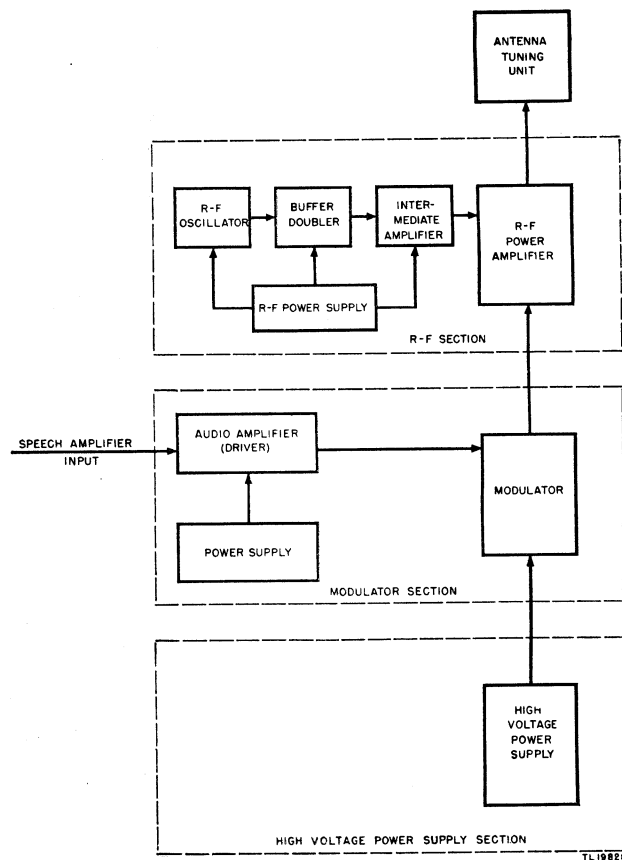

Figure 4. Radio Transmitter BC-610-(*), block diagram.
a. UPPER CHASSIS. The upper chassis includes the radio-frequency components, filament supply for the radio-frequency tubes, plug-in tuning units, and all indicating instruments. (See figs. 4, 5, 9, and 10.)